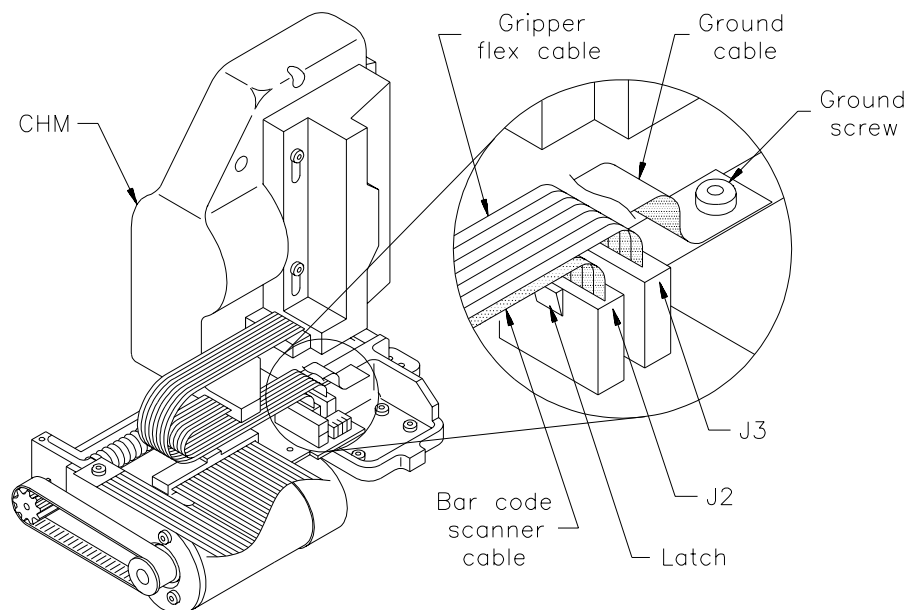

Figure 7 Connecting the bar code scanner
7. Connect the bar code scanner cable to the J2 connector on the CHM card, using the latch on the connector for guidance (see Figure 7).
8. If necessary, reconnect the gripper flex cable to the J3 connector (see Figure 7).
9. If you removed it, use a T-10 TORX screwdriver to replace the ground screw and ground cable (see Figure 7).